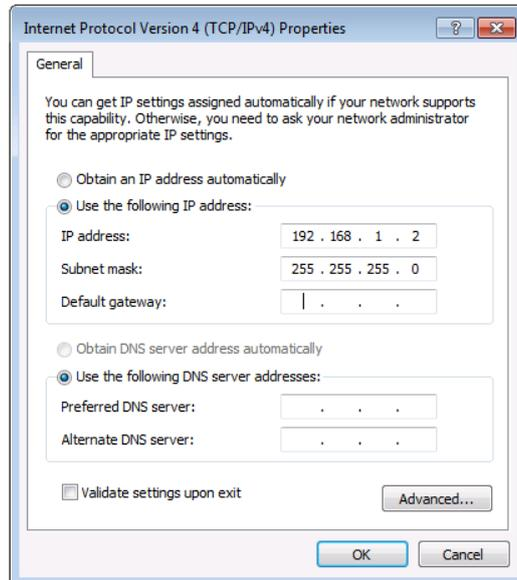

Figure 7: Internet Protocol Properties Window
- 6. Select **Use the following IP Address** for static IP addressing and fill in the details as shown in Figure 7.